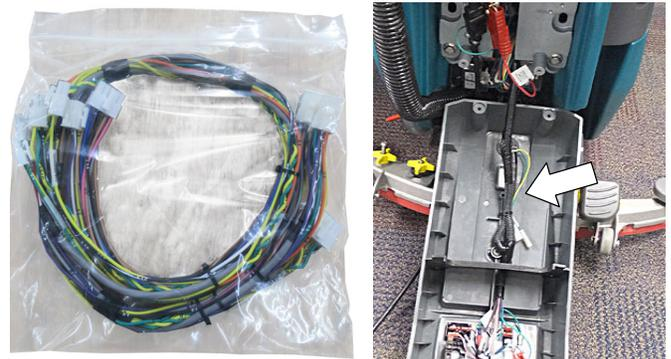

Fig. 4
5. See * **NOTE:** Replace the electrical harness located in the control console to adapt to the new redesigned replacement bezel assembly (Figure 4). Secure harness with wire-ties.